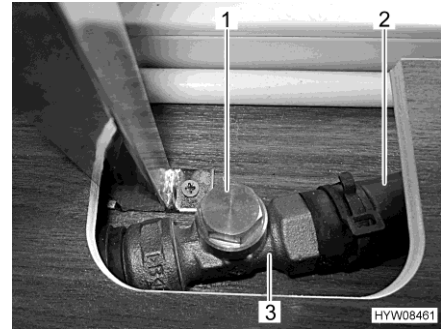

Fig. 175 Throttle (open)
- Touch the bypass line (Fig. 175,2) behind the throttle (Fig. 175,3). The pipe must be warm to the touch.